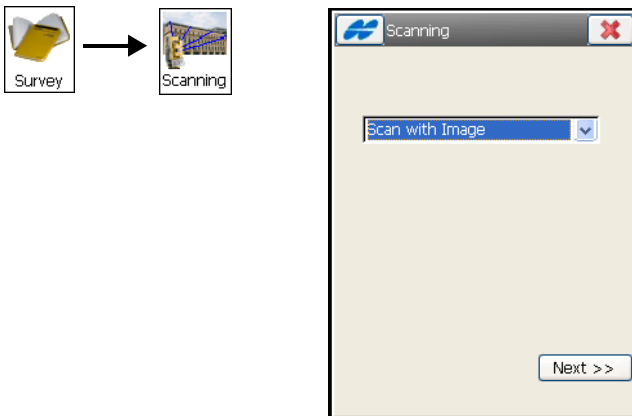

Figure 8-60. Select Scanning Type
1. To open the **Scanning** screen, tap **Survey ▶ Scanning** in the Robotic mode (Figure 8-60).
2. On the **Scanning** screen, select a desired scan type, either *Scan with Image* or *Scan w/o Image*, and tap **Next** (Figure 8-60).